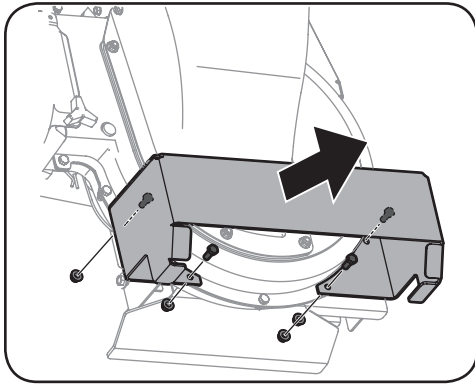

Figure 5-6
- Remove the front wheel bracket by loosening the four flange nuts (and hex bolts). Retain hardware. See Figure 5-6.